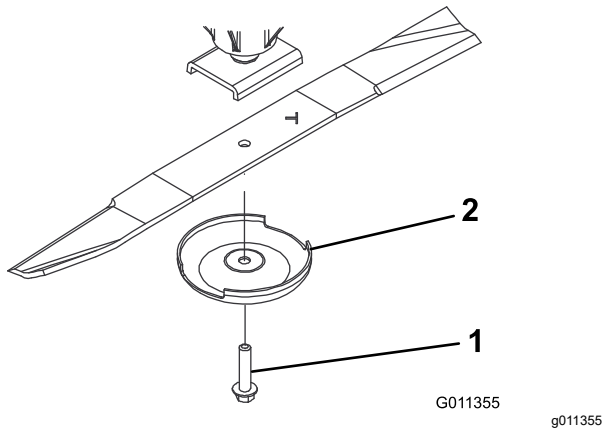

Figure 14
cup, and blade from the spindle shaft (Figure 14).
3. Install the blade, sail facing toward the cutting deck, with the anti-scalp cup and blade bolt (Figure 14). Tighten blade bolt to 85–110 ft-lb (115–149 N-m).